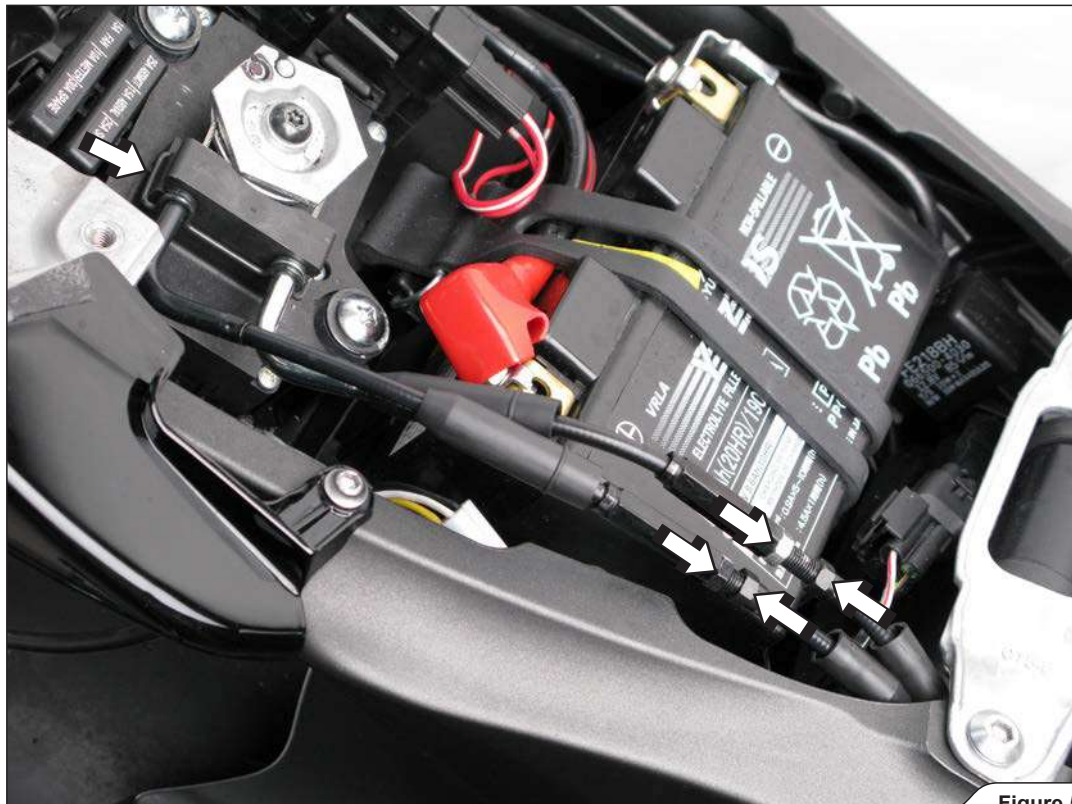

Figure 5
5. For optional link pipe only: shorten the cable adjusters, remove the safety pin and cables off the servo motor (Figure 5).